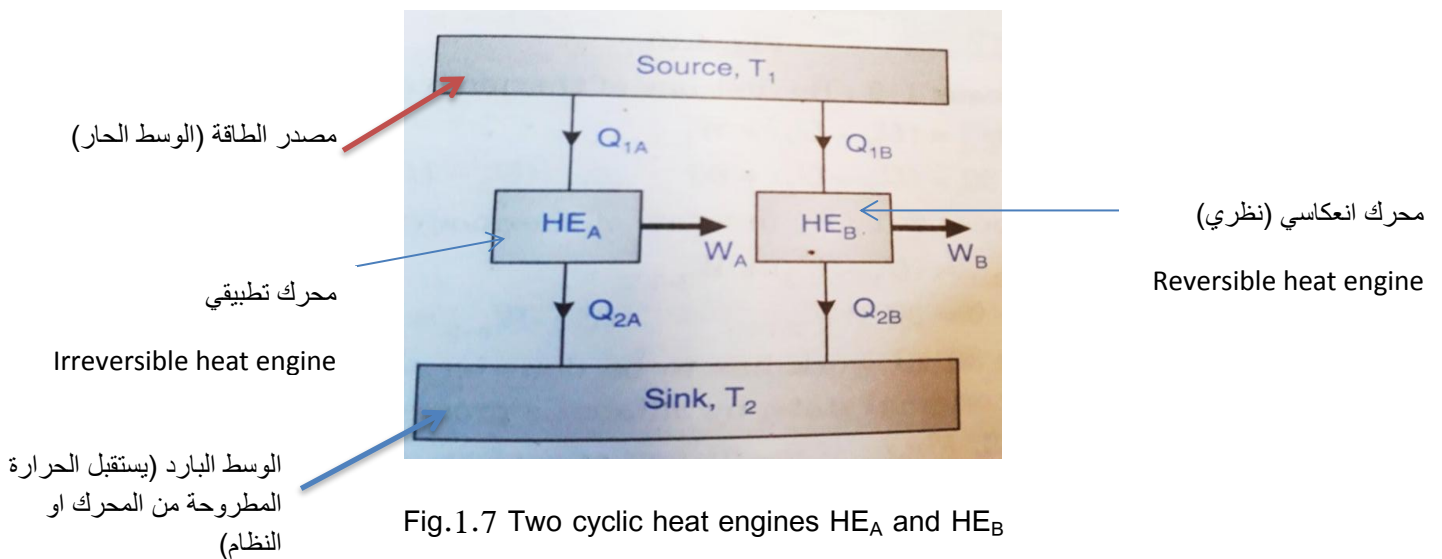

Fig.1.7 Two cyclic heat engines  $HE_A$  and  $HE_B$
1. " It states that all engines operating between a given constant temperature source and a given constant temperature sink, none has a higher efficiency than a reversible engine". Refer to Fig.1.7